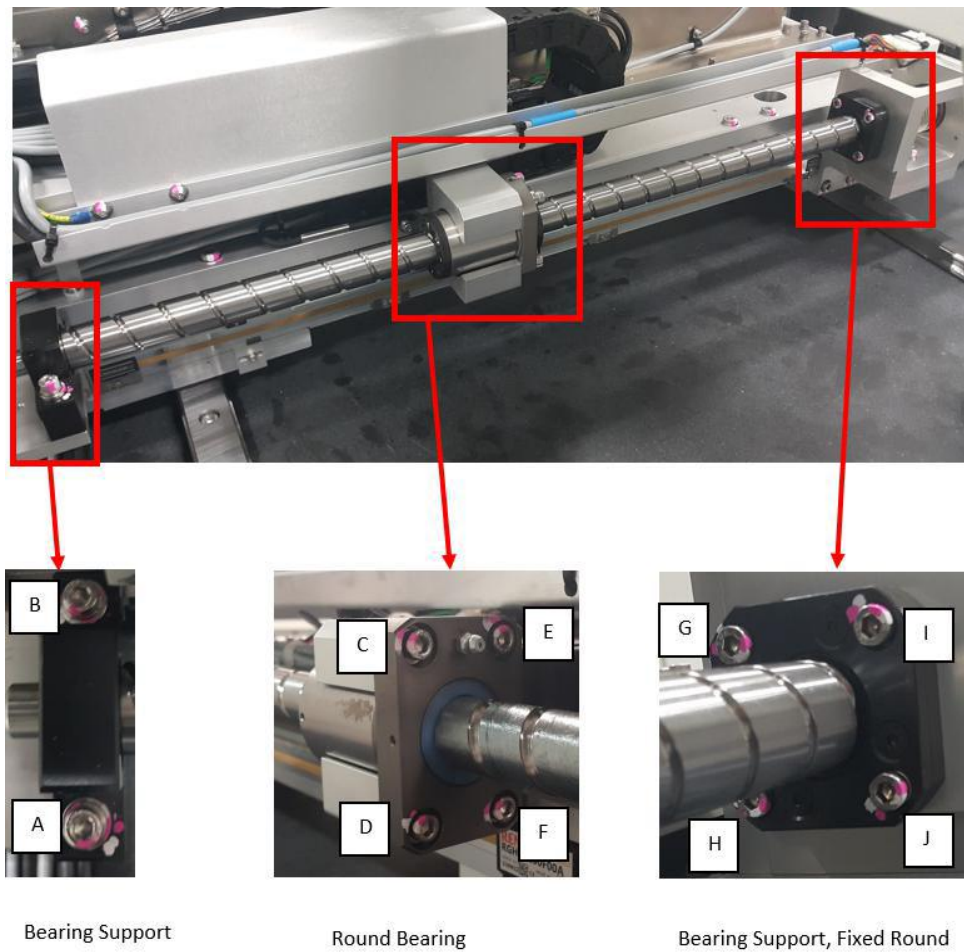

Figure 5 Ball screw
5. Remove the screw at "A" & "B" of the Bearing Support with M6 Allen Key as shown in Figure 5.
6. Remove the screw at "G" to "J" of the Fixed Support Bearing with M5 Allen Key as shown in Figure 5.
7. Remove the screw at "C" to "F" of the Fixed Support Bearing with M6 Allen Key as shown in Figure 5.